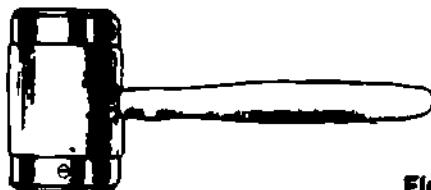

Figure 1-116. Mallet
- i) The mallet is a short-handled tool for driving wooden-handled chisels, etc. The mallet head may be made of wood, rubber, or another material (Figure 1-116).